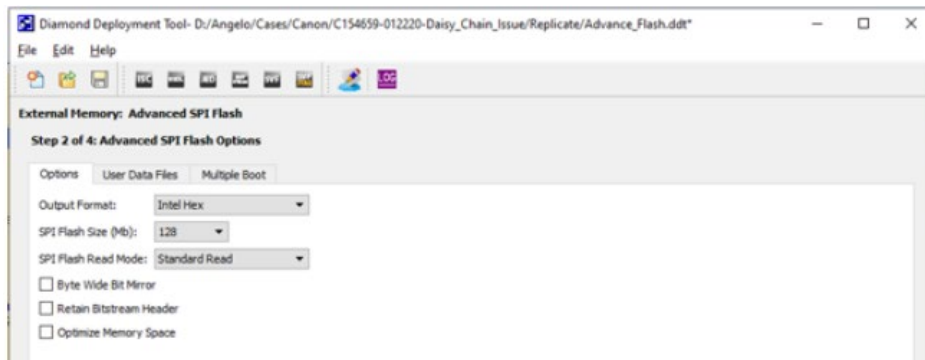

Figure D.8. Advanced SPI Flash Options
10. Click on the **Options** tab and adjust the setting as shown in Figure D.8.